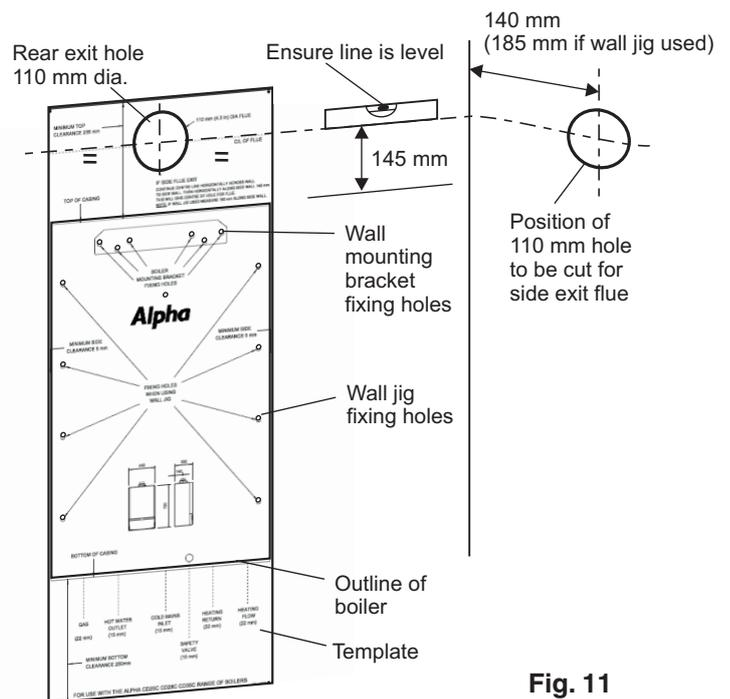

Fig. 11
4.3 PREPARE THE WALL - Fig. 11
4.4 FIT THE BOILER - Refer to Figs. 11,12